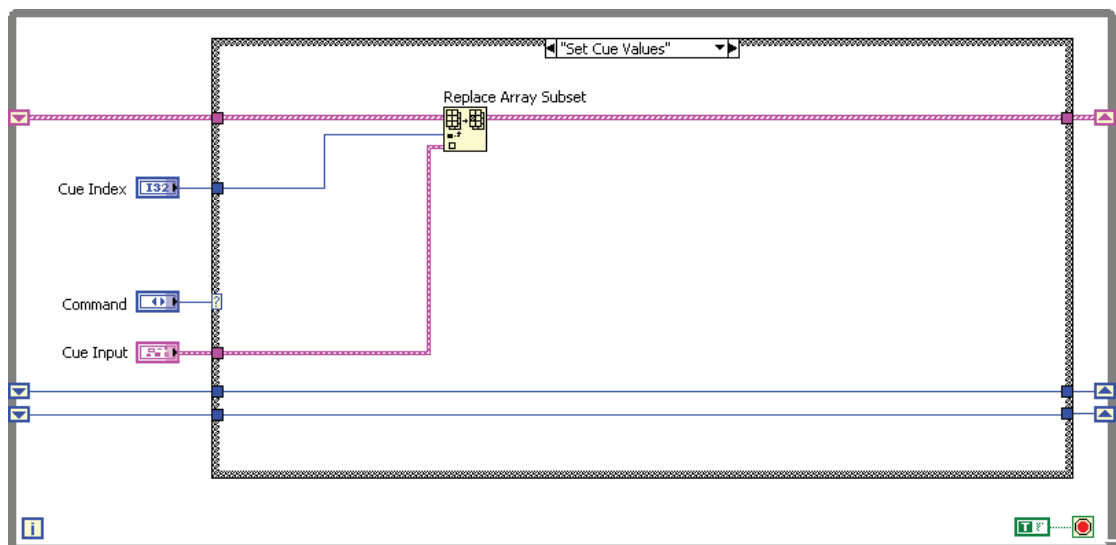

Figure 4-14. Set Cue Values Case
8. Use the Replace Array Subset function to complete the Set Cue Values case as shown in Figure 4-14. This case is modifies an existing cue.